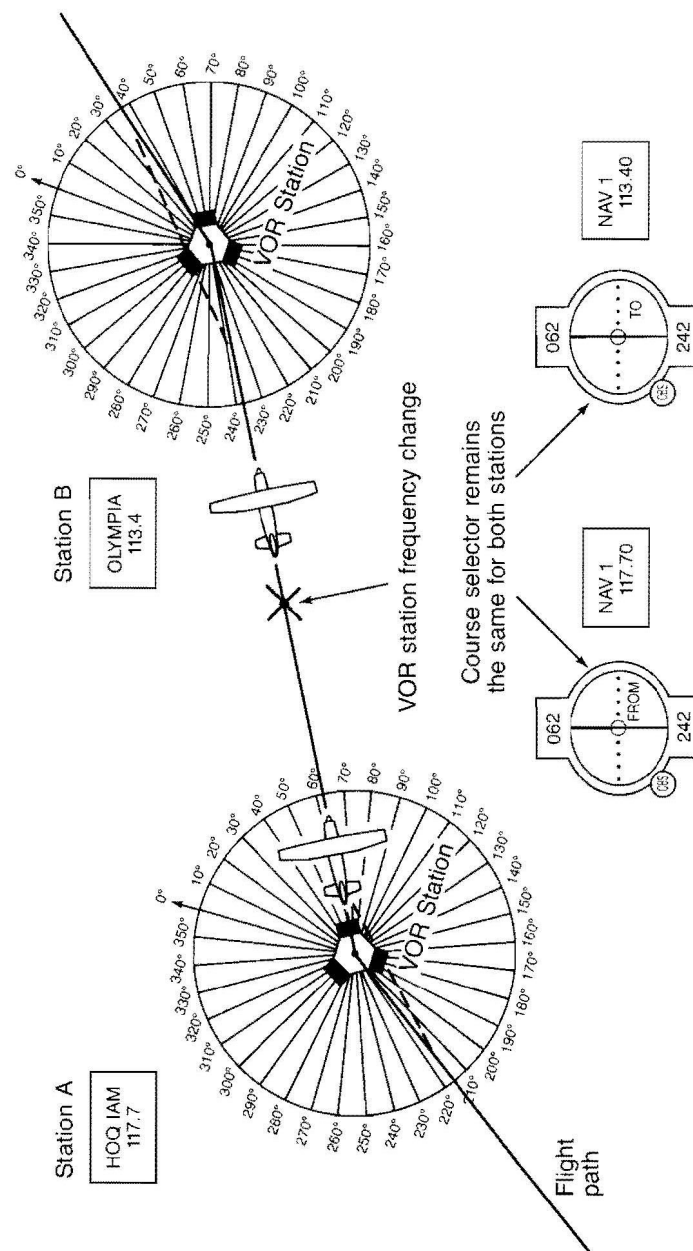

Figure 19. VOR Station-to-Station Navigation
1. Select two VOR stations that you want to fly between. You will be flying FROM station A TO station B. Draw a line on the map between them (see Figure 19).